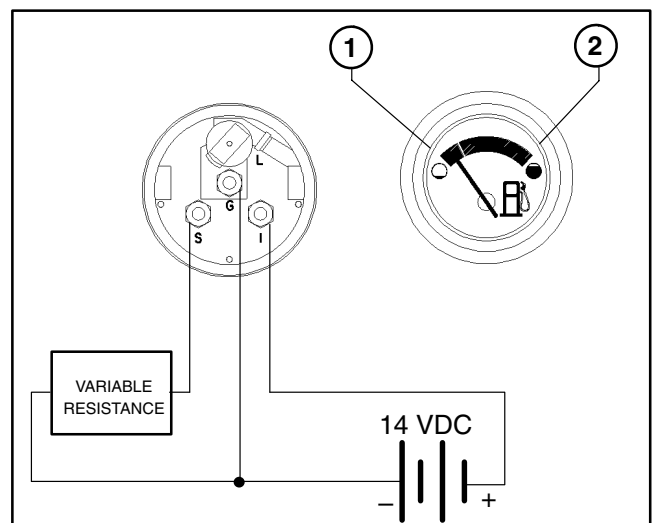

Figure 14
1. Connect the fuel gauge to the variable resistance and DC voltage source (Fig. 14).
2. Adjust resistance until the gauge needle points to following test points on the gauge (Fig. 14):